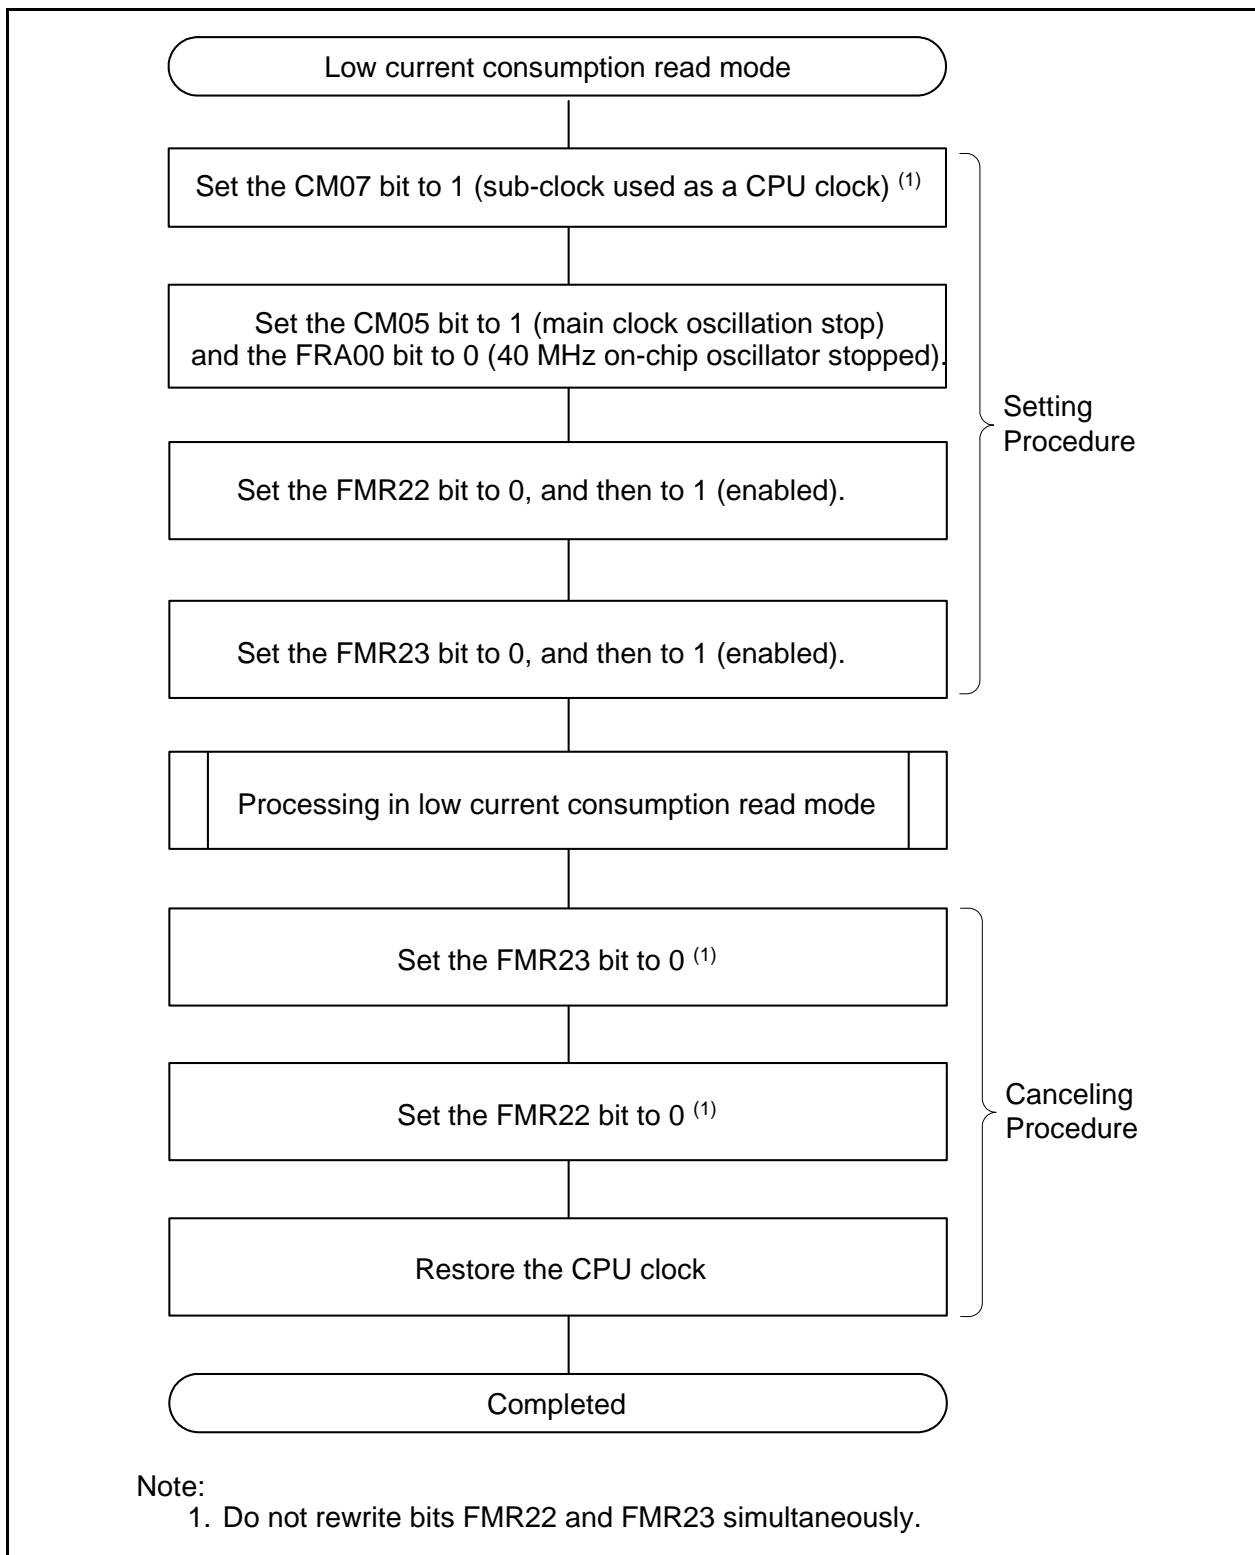

Figure 9.4 Setting and Canceling of Low Current Consumption Read Mode
Low current consumption read mode can be used when the CM07 bit in the CM0 register is 1 (sub clock used as CPU clock). Figure 9.4 shows Setting and Canceling of Low Current Consumption Read Mode.
- Enter low current consumption read mode through slow read mode (refer to Figure 9.4 "Setting and Canceling of Low Current Consumption Read Mode").